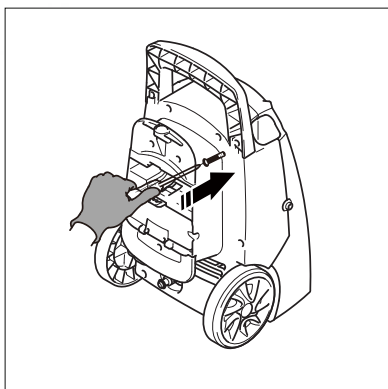
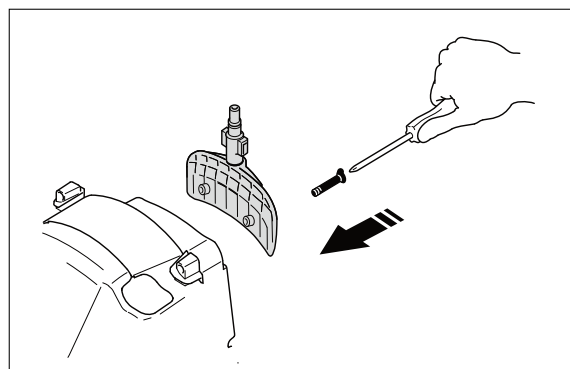

Fig. 1
Fig. 2
- The **BLUE CLEAN POWER WASHER** requires some minor assembly, handle and top cord holder/detergent suction tube. Slide handle from front of the washer toward the back and fasten with two (2) screws (**Fig. 1**). Then attach the top cord holder to the back of the washer using the two (2) remaining screws. (**Fig. 2**).